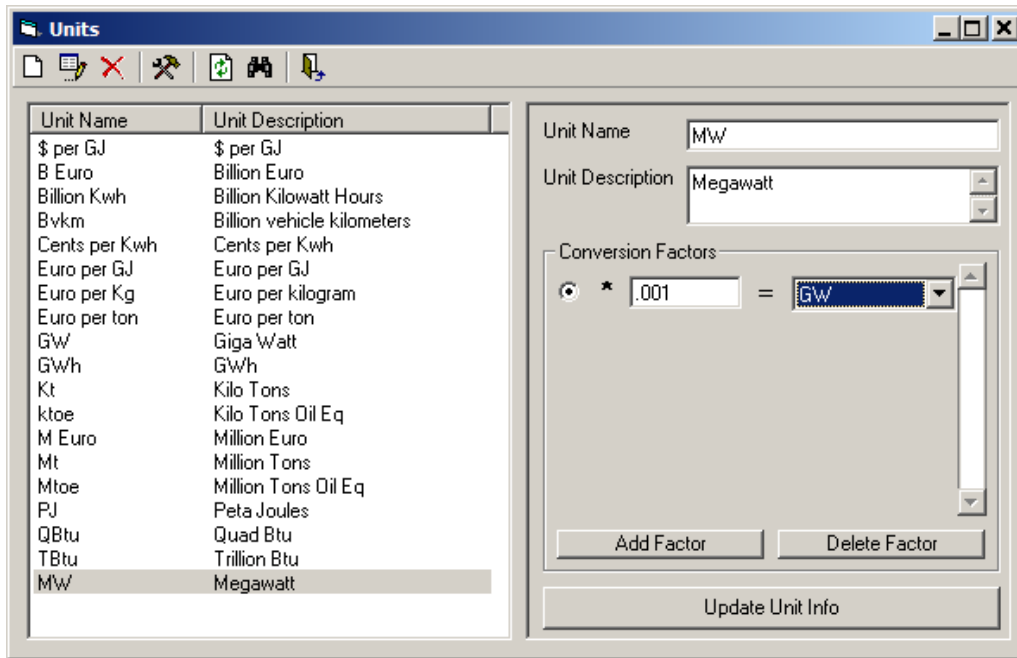

Figure 44: The Units window after adding MW
- Click **Update Unit Info**. The **Units** window should now appear as shown in Figure 44.